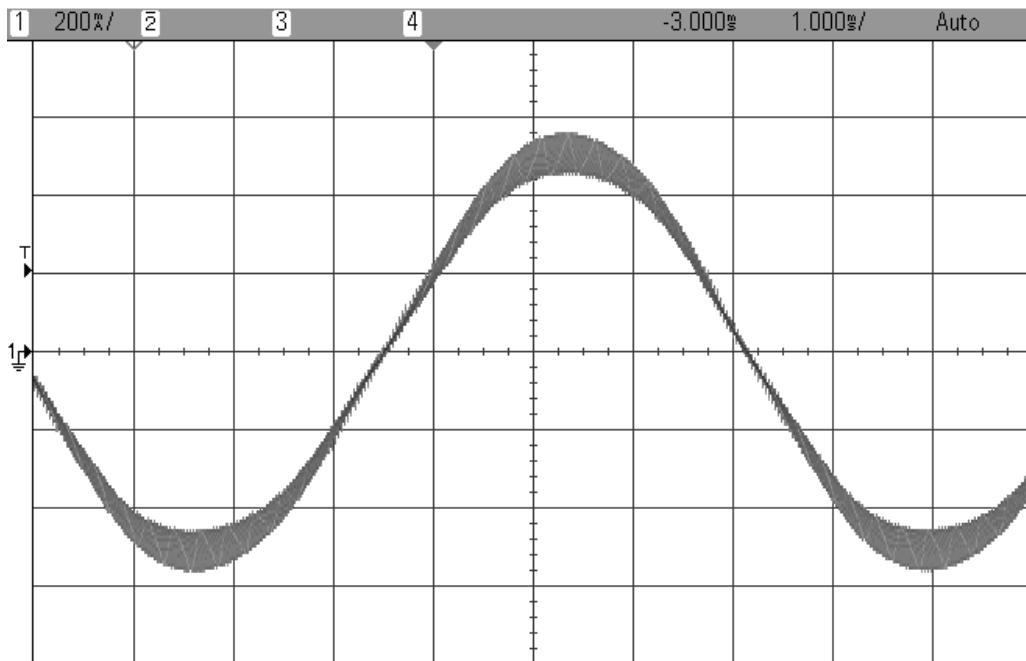
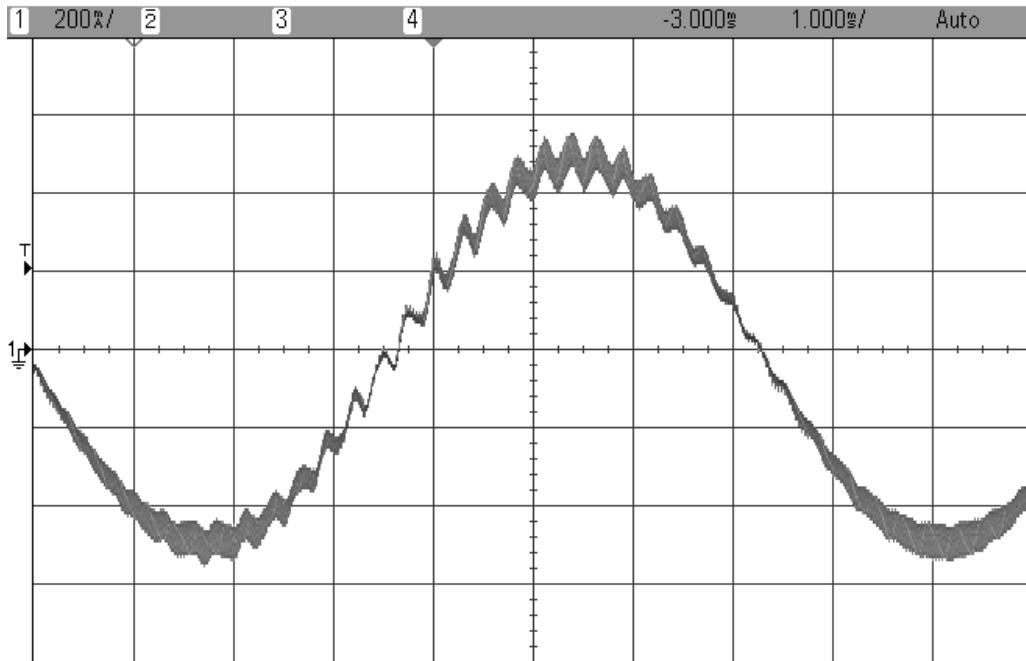

Figure 33:  $K_p^{\text{series}}$  setting that has been calculated at 1/20 of the bandwidth.
Figure 34:  $K_p^{series}$  setting that is too high resulting in the controller becoming unstable.
As the bandwidth gets wider, the sampling delay has more of a negative effect on the phase margin of the controller and causes the control loop to become unstable. Figure 33 is a plot of the motor current waveform with a stable  $K_p^{\text{series}}$  setting. As the  $K_p^{\text{series}}$  is increased, the phase margin of the control loop becomes smaller. After a while the control loop is unstable and starts to oscillate as shown in Figure 34. The current controller gain should not be set to this high of a value. When a current loop instability occurs, lower the  $K_p^{\text{series}}$  gain until the current waveform is like the one in the following figure.
- When the motor makes the high pitch noise, its current waveform looks like that in Figure 34.